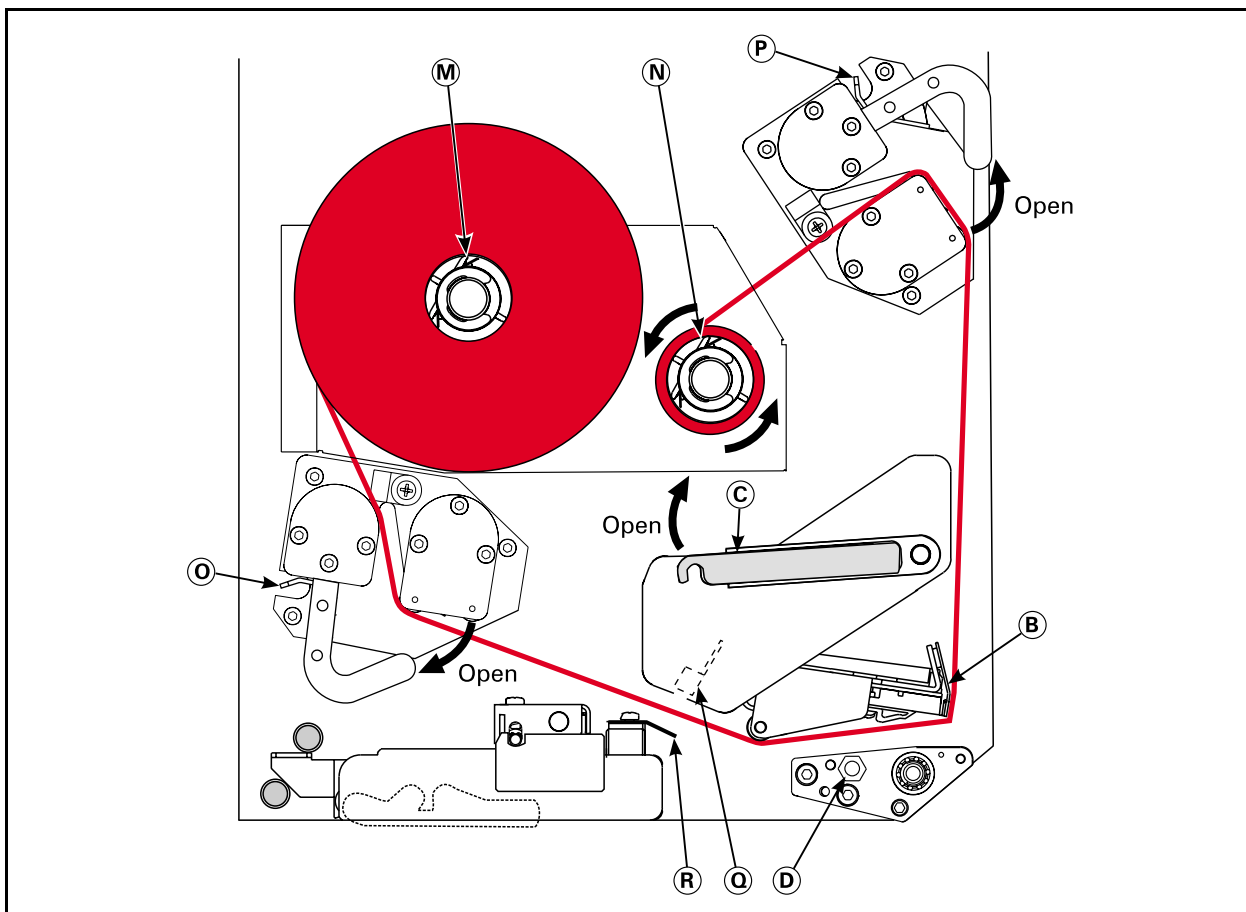
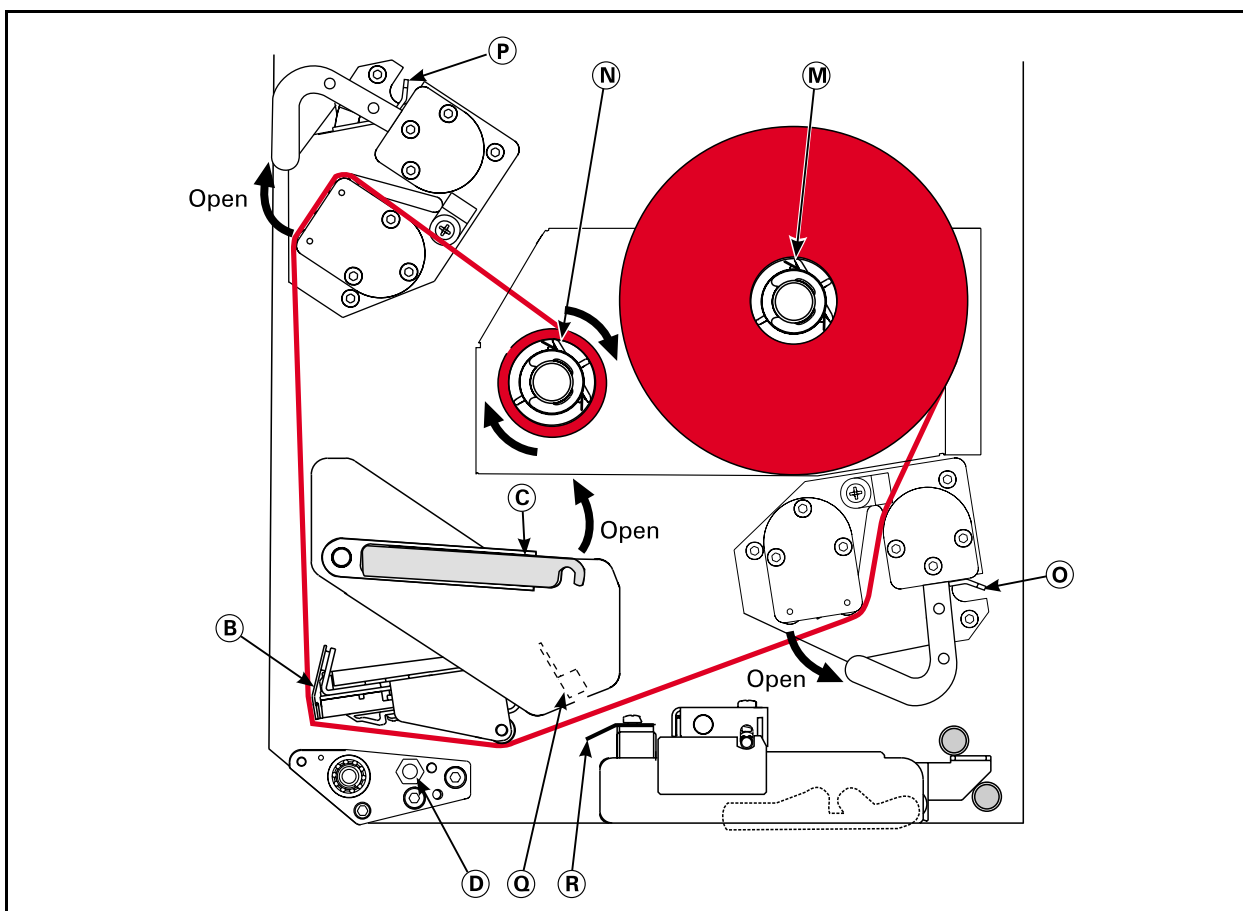

Figure 4. Ribbon Loading (RH)
Figure 5. Ribbon Loading (LH)
To load ribbon, refer to Figure 4 (for right-hand units) or Figure 5 (for left-hand units).
1. Install the ribbon roll onto the supply spindle (M) and push it on until it is fully seated, so the ribbon feeds as shown in Figure 4 for right-hand units or Figure 5 for left-hand units. Ensure that the ribbon core fits tightly to the spindle. If the core is not tight, proper ribbon tension may not be maintained.
2. Install an empty ribbon core onto the ribbon take-up spindle (N) and push it on until it is fully seated. Ensure that the ribbon core fits tightly to the spindle.
3. Open the printhead assembly (B) by unlatching the printhead latch (C) from the locking pin (D).
4. Using your thumb and the side of your index finger, squeeze the ribbon supply dancer arm opening tab (O) toward the outer U-shaped channel and pivot open the dancer arm. Carefully thread the ribbon between the two U-shaped channels, and then slowly release the ribbon supply dancer arm.
5. Thread the ribbon under the printhead assembly (B) and then up toward the ribbon take-up dancer assembly.
To remove used ribbon, refer to Figure 4 (for right-hand units) or Figure 5 (for left-hand units):